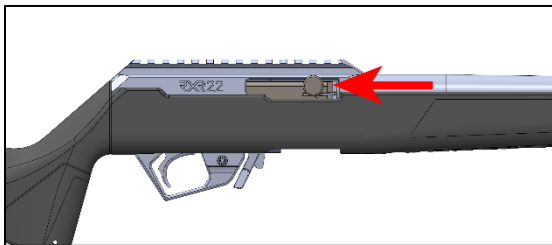

Figure 15
**WARNING!** If your firearm gives any indication that it is not performing properly, fails to discharge a cartridge, there is a muffled sound, or the operation of the firearm has changed, stop firing immediately. If a cartridge fails to fire, wait thirty (30) seconds while keeping the muzzle pointed in a safe direction.
- If a cartridge fails to fire, wait thirty (30) seconds while keeping the muzzle pointed in a safe direction.
- While avoiding exposure to the ejection port, grasp the cocking handle and briskly pull fully rearward to eject the misfired round - Figure 15.